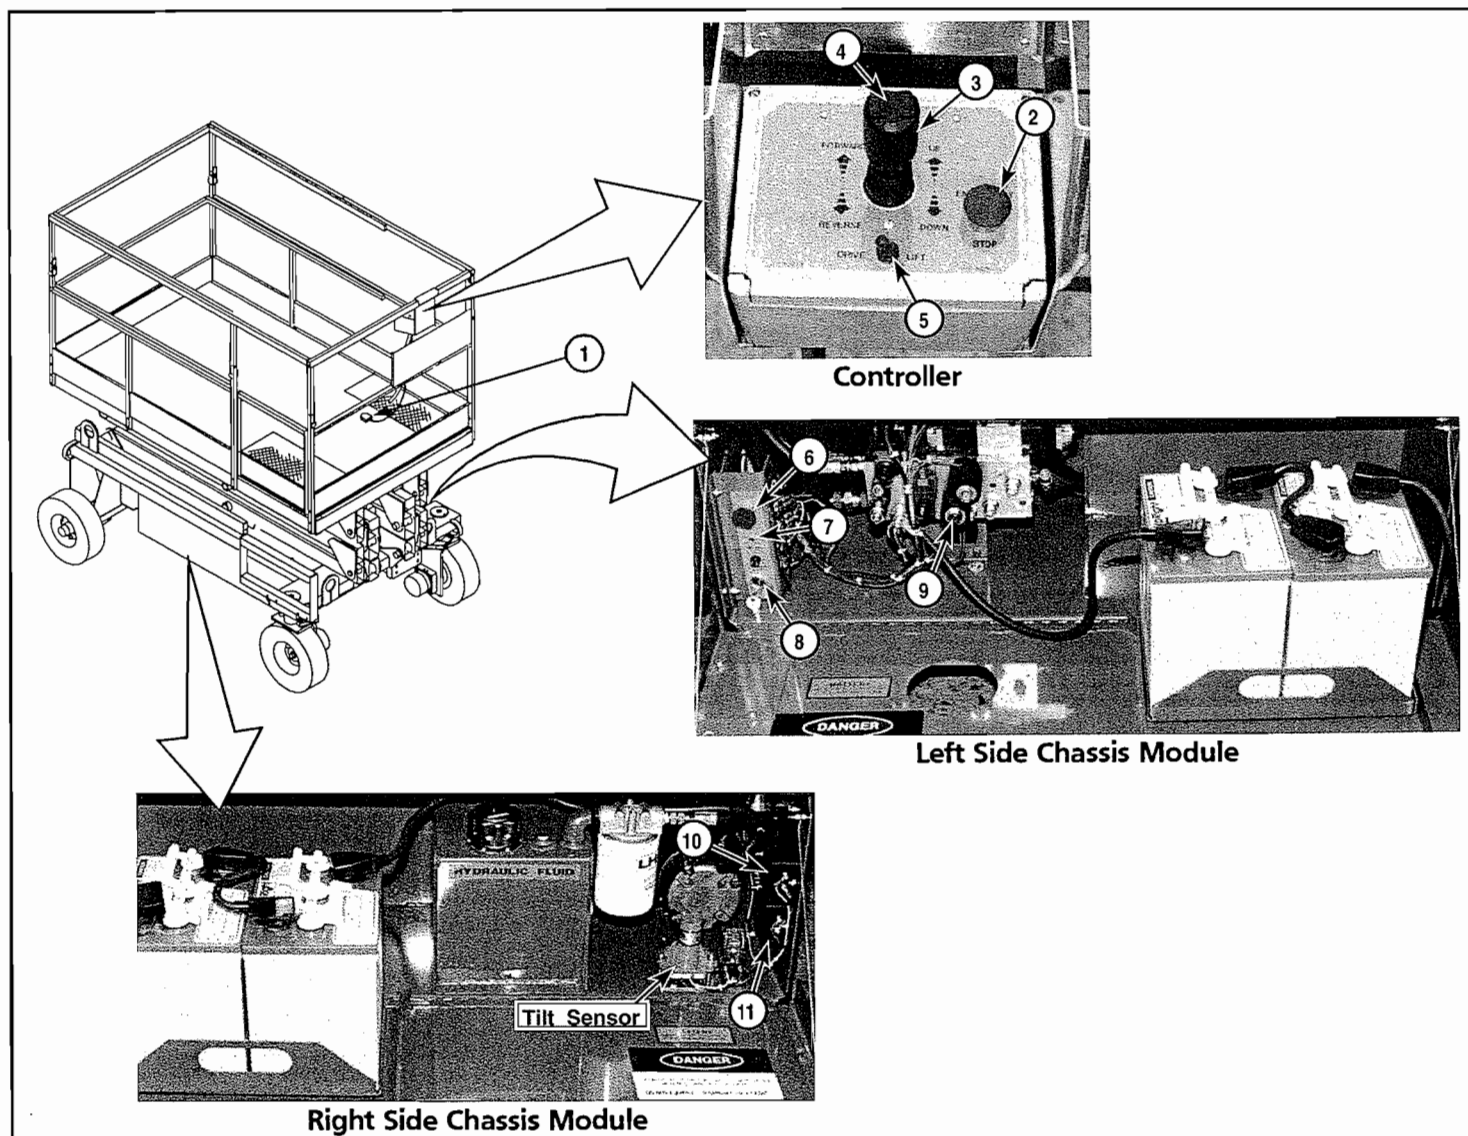

Figure 3-1: Controls and Indicators
The controls and indicators for operation of the XLD Series Work Platforms are shown in Figure 3-1. The name and function of each control and indicator are listed in Table 3-1. The index numbers in the figure correspond to the index numbers in the table. **The operator should know the location of each control and indicator and have a thorough knowledge of the function and operation of each before attempting to operate the unit.**
9. Turn Chassis and Platform Emergency Stop Switches ON (Figure 3-1) by pulling the button out.
10. Turn the Chassis Key Switch (Figure 3-1) to **CHASSIS**.
11. Push Chassis Lift Switch (Figure 3-1) to **UP** position and fully elevate platform.
13. Check Level Sensor (Figure 3-1) operation by pushing the sensor off of level, the alarm should sound.
15. Open the Chassis Emergency Lowering Valve (Figure 3-1) to check for proper operation by pushing in on the knob and turning ¼ turn counterclockwise. Once the platform is fully lowered, close the valve by pushing in on the knob and turning ¼ turn clockwise until the detent engages.
The Emergency Lowering Valve is located on the front of the Manifold Assembly on the left side of the Chassis Module (see Figure 3-1), it can be accessed through the cutout in the Control Module Door.